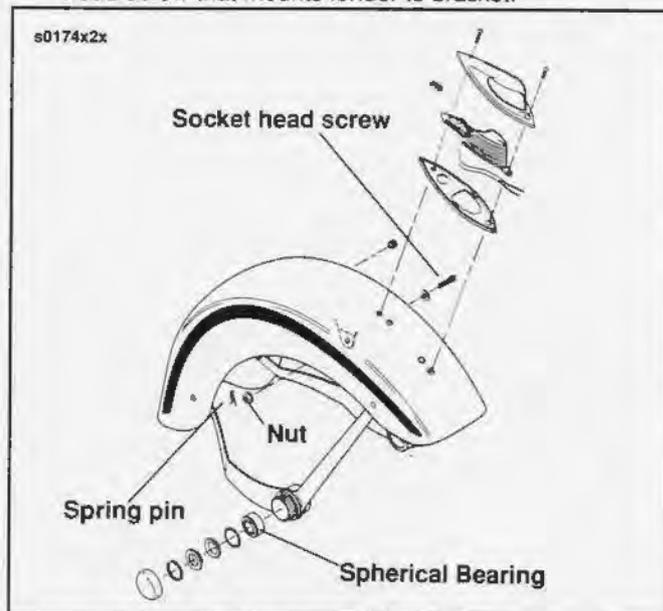

Figure 2-94. Front Fender – FLSTS
5. See Figure 2-94. Remove spring pin and nut from socket head screw that mounts fender to bracket.
2. See Figure 2-94. Using an arbor press and suitable tool that makes contact with outer race of bearing but is smaller than the fender bore, press spherical bearing out of fender bore, outboard to inboard.